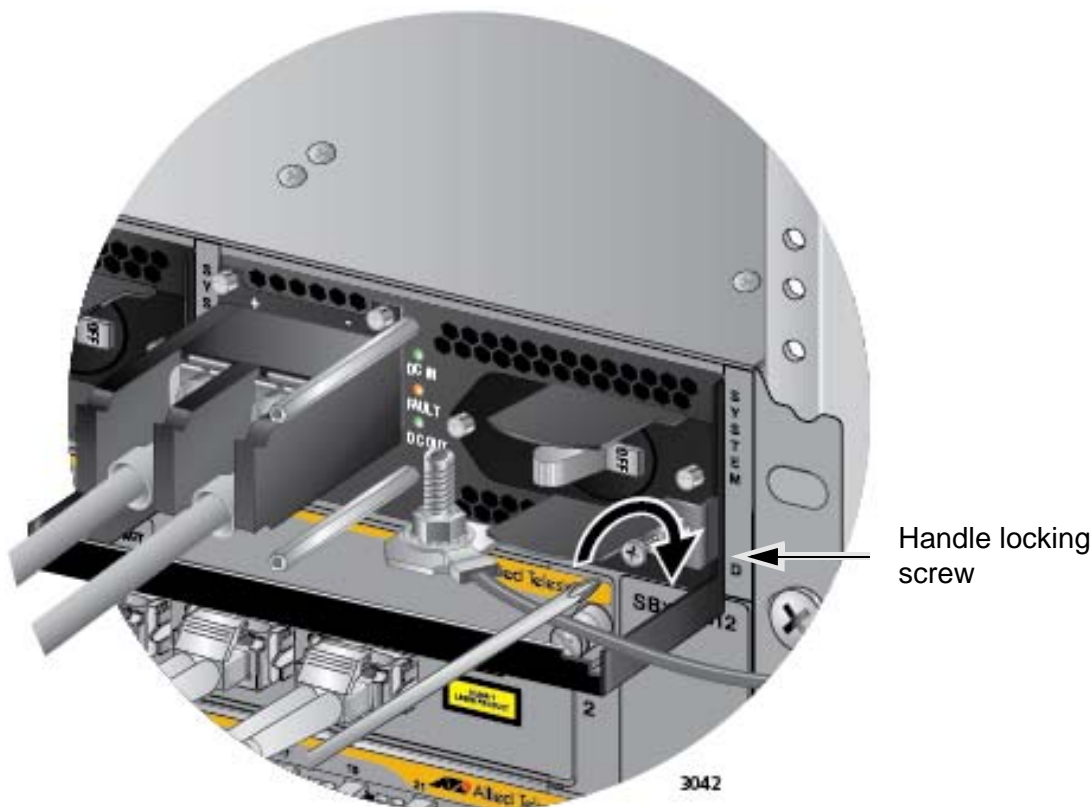

Figure 131. Tightening the Handle Locking Screw
8. With a #2 Phillips-head screwdriver, tighten the handle locking screw to secure the power supply to the chassis. See Figure 131 on page 192.